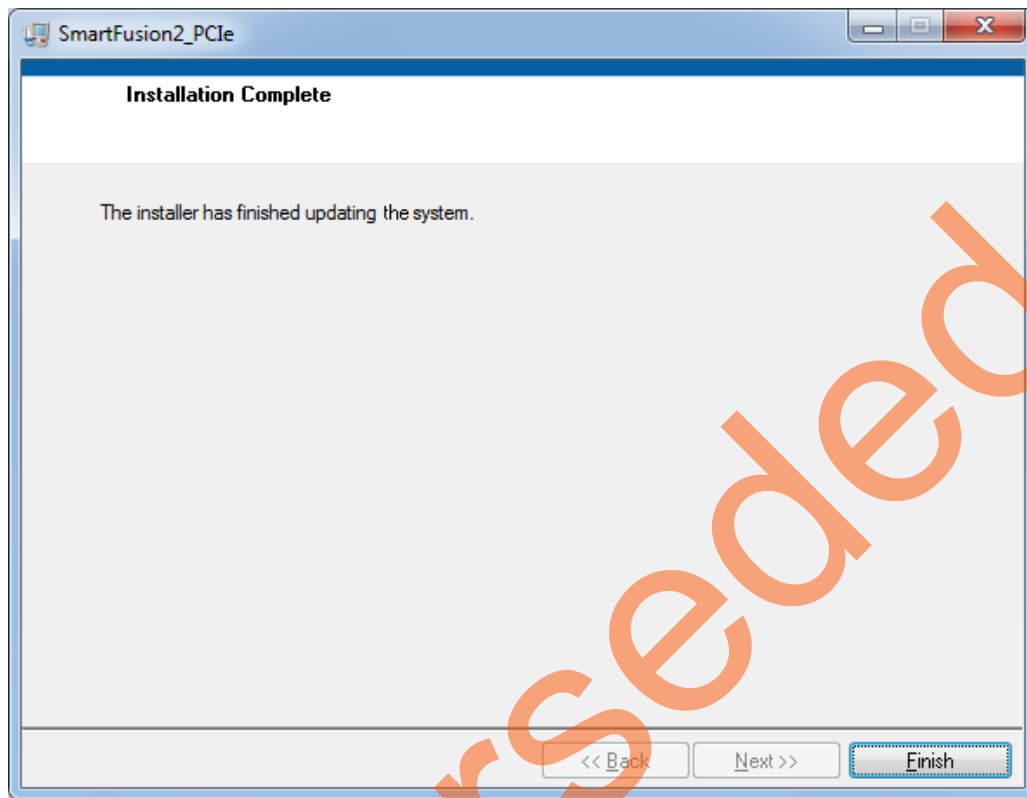

Figure 17 • Successful GUI Installation
- Click **Next** and **Finish** to complete the installation. Figure 17 shows the **Successful GUI Installation** window.